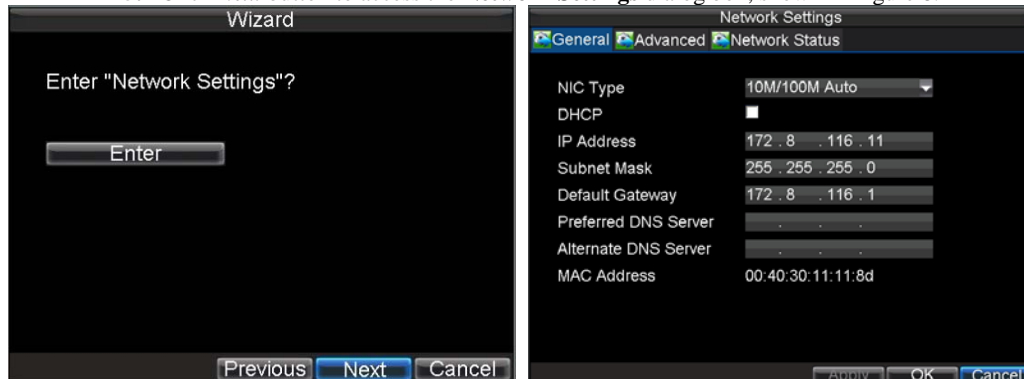

Figure 8. Network Settings
15. Click *Next* button to access the **Network Settings** dialog box, shown in Figure 8.